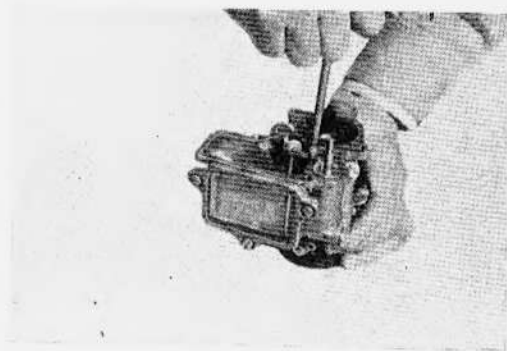

Figure 118
(6) Remove metering rod from metering rod adjusting piece.
(7) Remove operating block (Figs. 118—119).